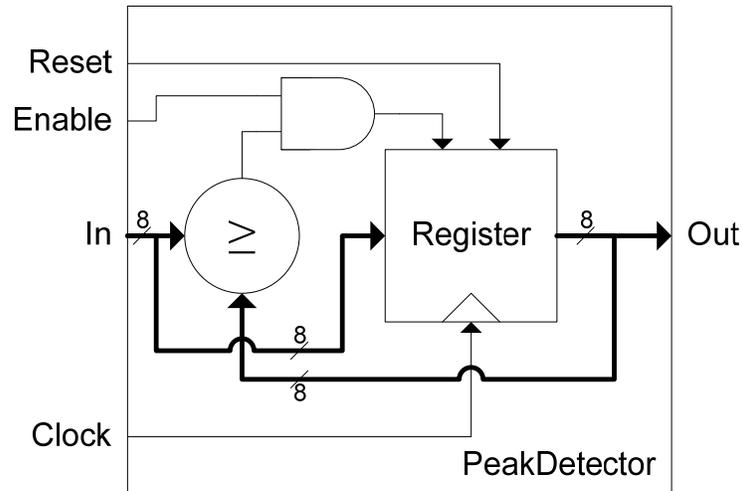

Figure 4: The Peak Detector
5. In the text editor of your choice (we recommend notepad) create a file called **PeakDetector.v** in which you will define a single modules called PeakDetector. Refer to Figure 4 for more information.